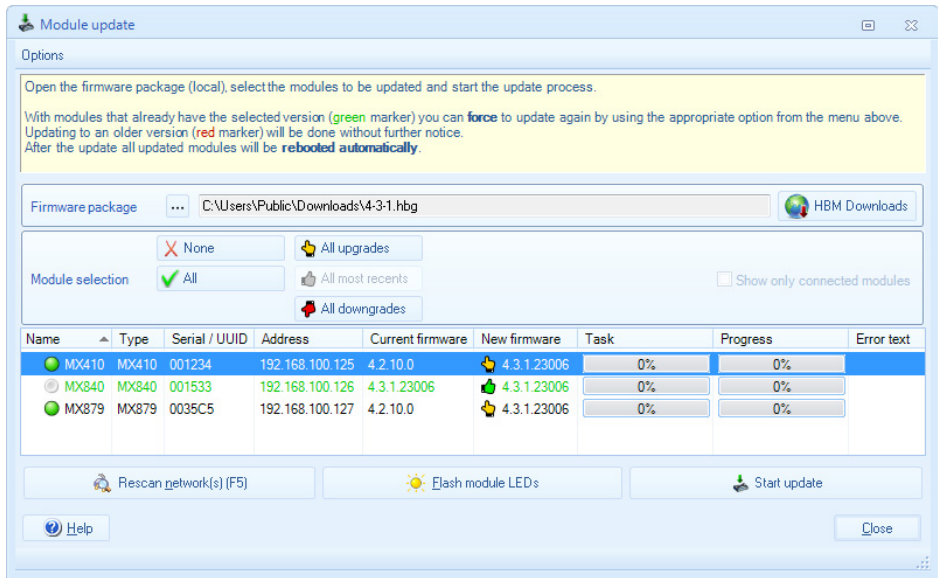

Fig. 8.1 The firmware update dialog
1. Download the latest files with the firmware updates from the HBM website: <http://www.hbm.com/Download>. You can also use the dialog in Fig. 8.1 in the MX Assistant to call the download site: **HBM Downloads** button.
2. Start the MX Assistant and use the **File** tab and the menu item **Module -> Module update** to call the update dialog (Fig. 8.1).